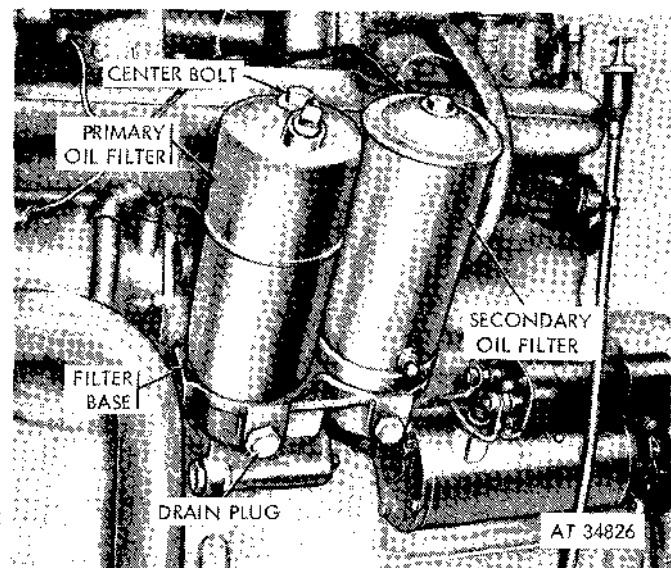

Figure 2-55. Diesel engine oil filters.
a. Preliminary. Remove the two drain plugs (fig. 2-55) and allow the oil to drain into a suitable container.